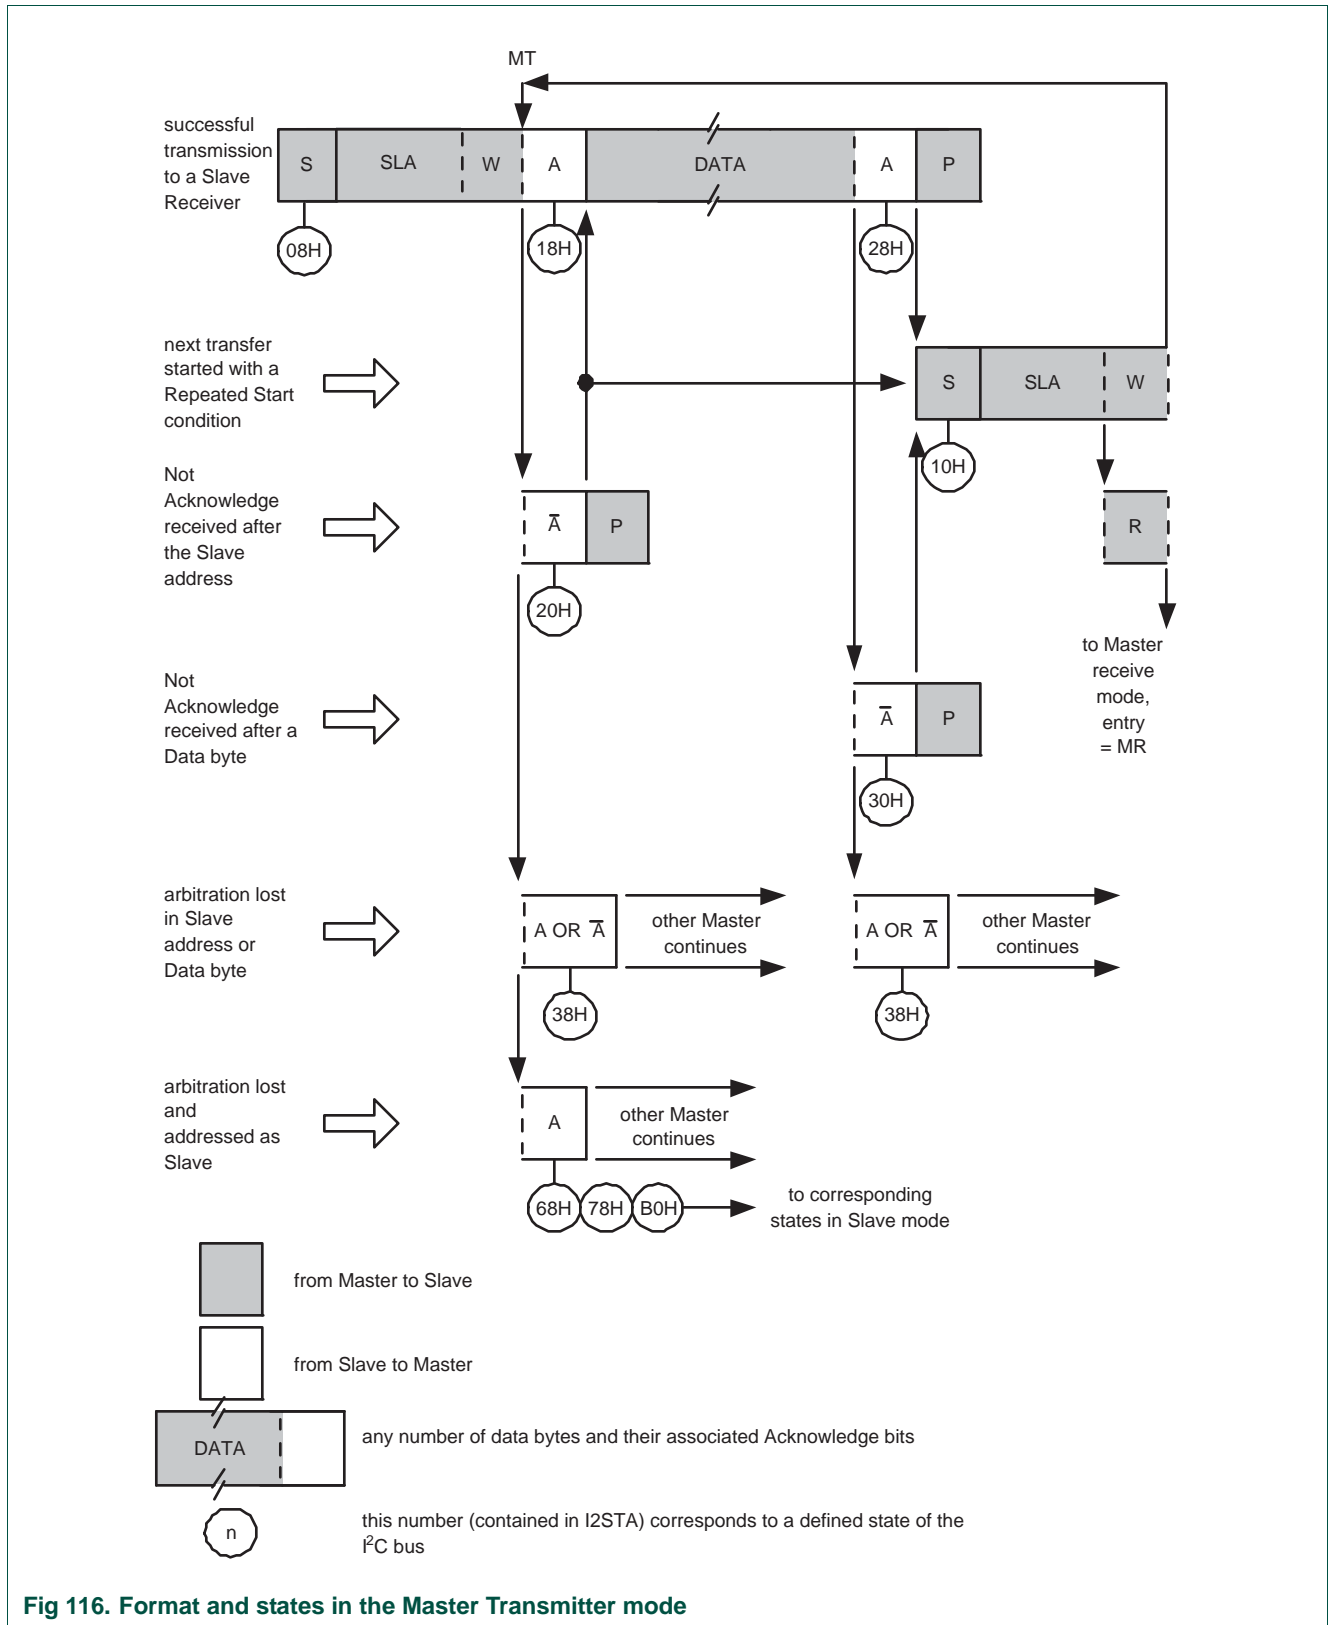
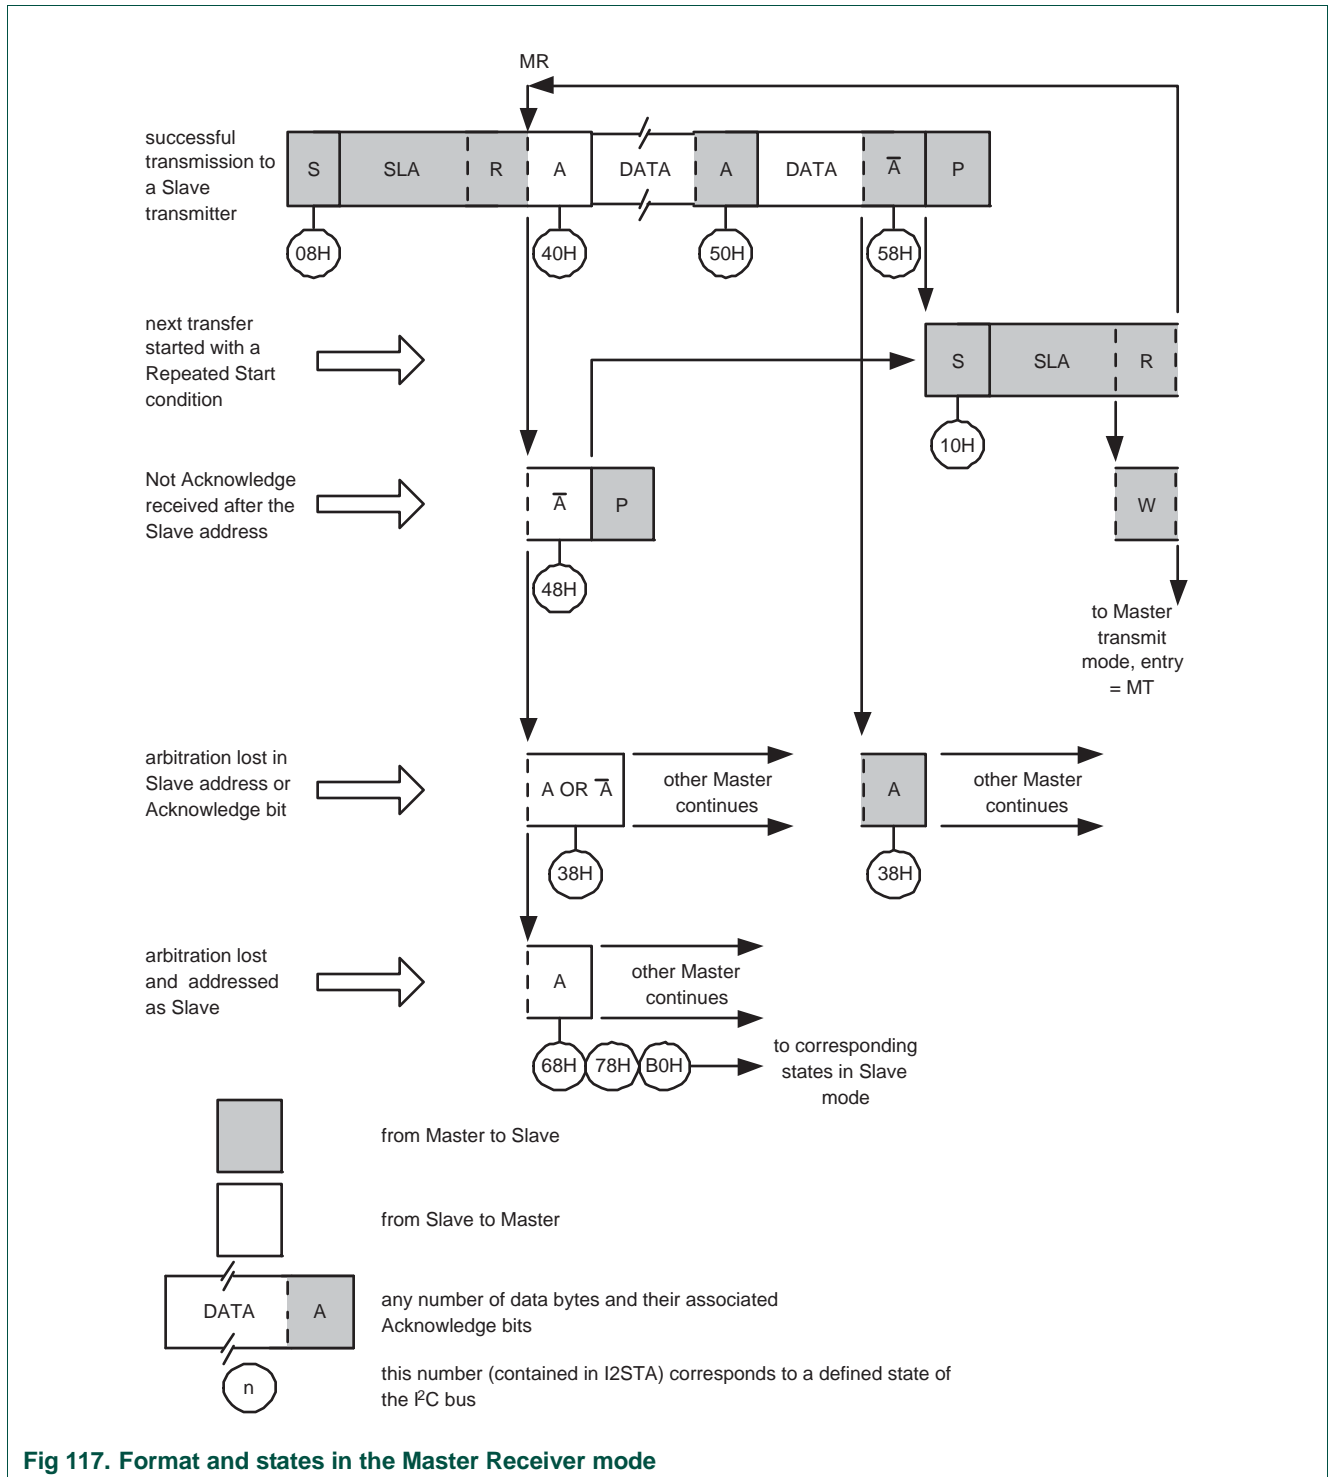
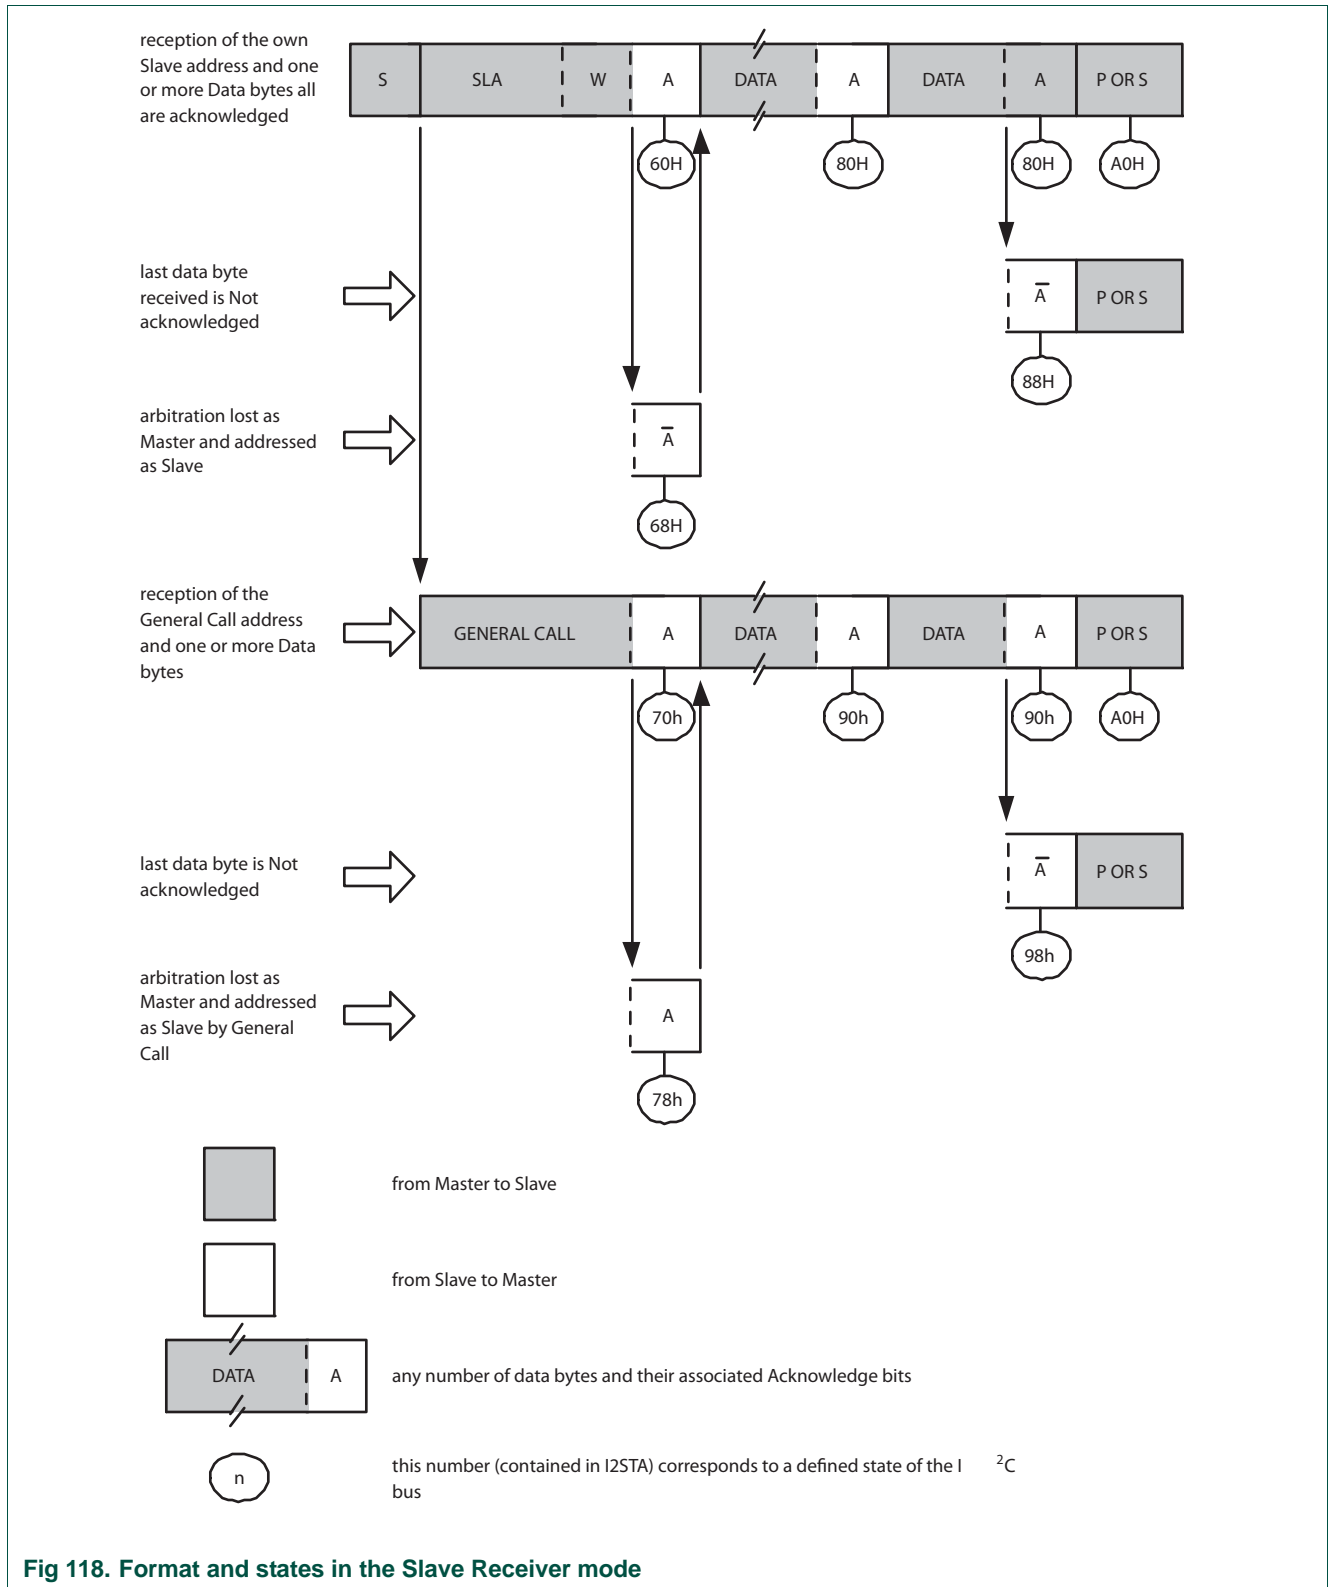
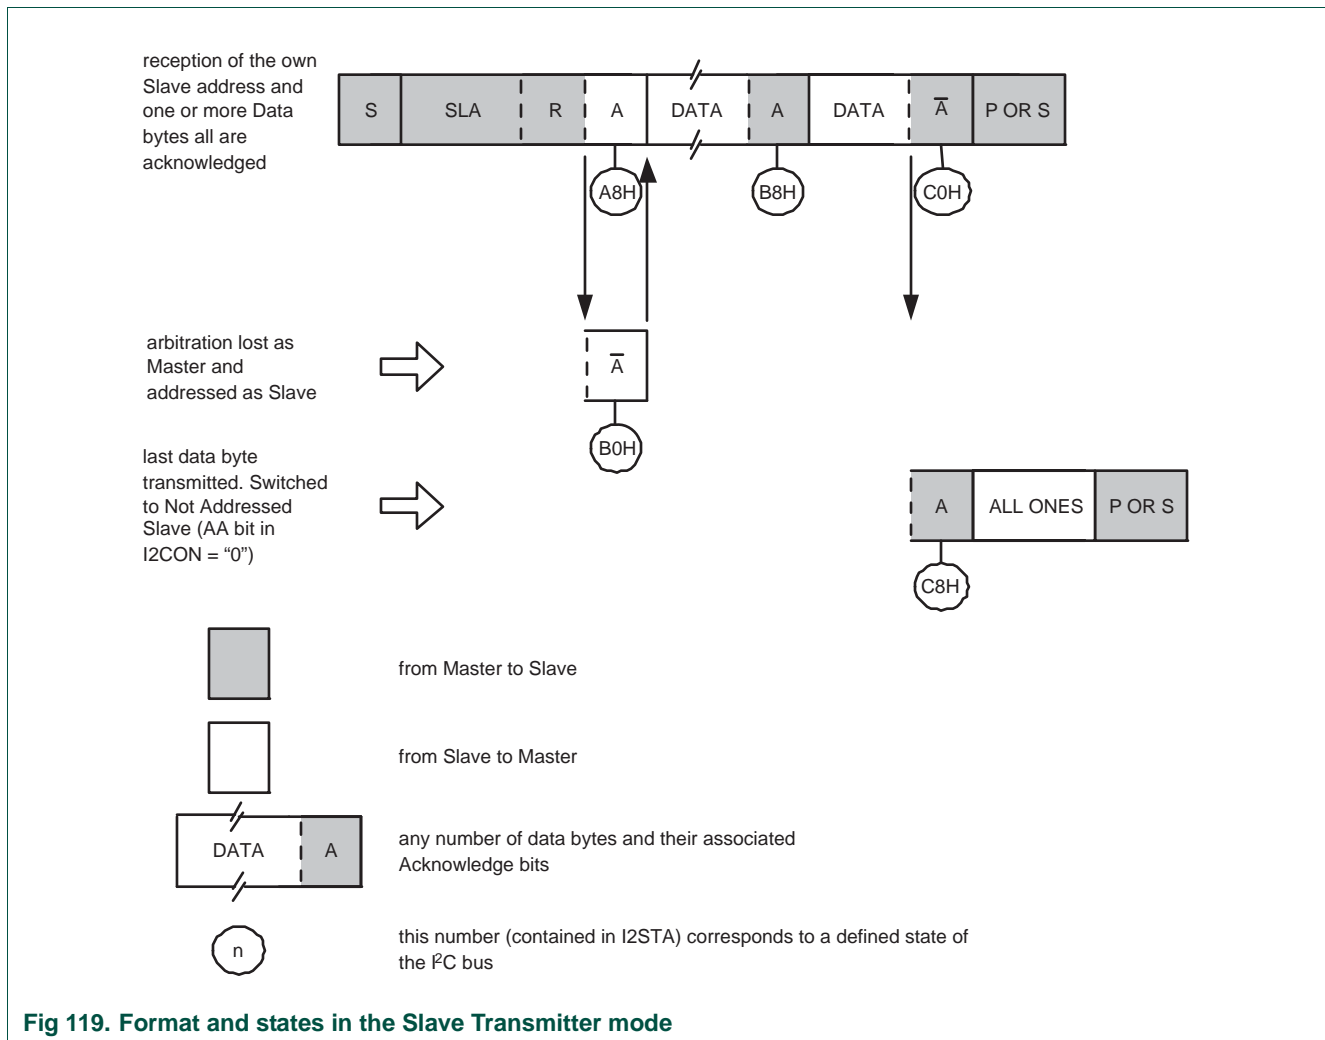

Fig 116. Format and states in the Master Transmitter mode
Fig 117. Format and states in the Master Receiver mode
Fig 118. Format and states in the Slave Receiver mode
Fig 119. Format and states in the Slave Transmitter mode
Data transfers in each mode of operation are shown in Figure 116, Figure 117, Figure 118, Figure 119, and Figure 120. Table 503 lists abbreviations used in these figures when describing the I2C operating modes.
In Figure 116 to Figure 120, circles are used to indicate when the serial interrupt flag is set. The numbers in the circles show the status code held in the I2STAT register. At these points, a service routine must be executed to continue or complete the serial transfer. These service routines are not critical since the serial transfer is suspended until the serial interrupt flag is cleared by software.
In the master transmitter mode, a number of data bytes are transmitted to a slave receiver (see Figure 116). Before the master transmitter mode can be entered, I2CON must be initialized as follows:
In the master receiver mode, a number of data bytes are received from a slave transmitter (see Figure 117). The transfer is initialized as in the master transmitter mode. When the START condition has been transmitted, the interrupt service routine must load I2DAT with the 7-bit slave address and the data direction bit (SLA+R). The SI bit in I2CON must then be cleared before the serial transfer can continue.
In the slave receiver mode, a number of data bytes are received from a master transmitter (see Figure 118). To initiate the slave receiver mode, I2CON register, the I2ADR registers, and the I2MASK registers must be configured.
In the slave transmitter mode, a number of data bytes are transmitted to a master receiver (see Figure 119). Data transfer is initialized as in the slave receiver mode. When I2ADR and I2CON have been initialized, the I2C block waits until it is addressed by its own slave address followed by the data direction bit which must be “1” (R) for the I2C block to operate in the slave transmitter mode. After its own slave address and the R bit have been received, the serial interrupt flag (SI) is set and a valid status code can be read from I2STAT. This status code is used to vector to a state service routine, and the appropriate action to be taken for each of these status codes is detailed in Table 509. The slave transmitter mode may also be entered if arbitration is lost while the I2C block is in the master mode (see state 0xB0).